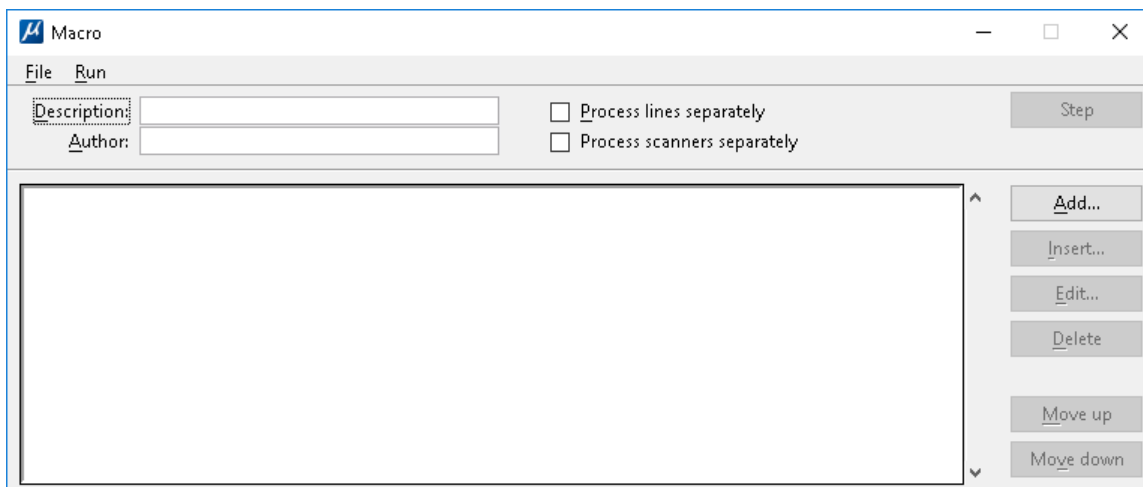

Figure 15-2 TerraScan Macro Dialog
1. Choose **Macro** command from **Tools** pull-down menu in the **Main** window. This opens the **Macro** dialog (Figure 15-2).